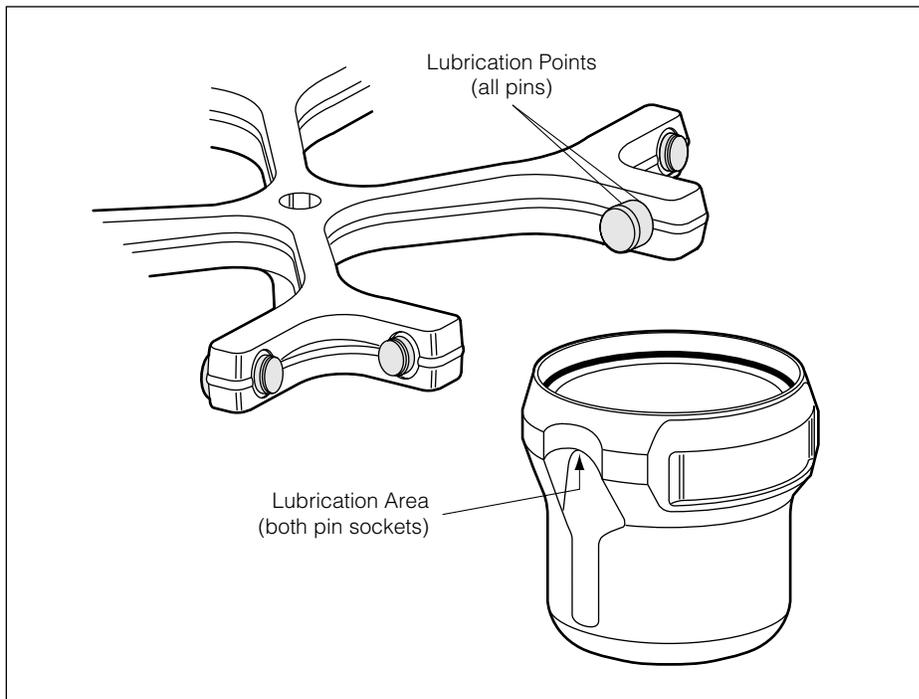

Figure 13. Lubricating Pivot Pin/Bucket Contact Areas
- Approximately once a week, and after cleaning and/or autoclaving, wipe the rotor pins and pin sockets (see Figure 13) with a paper towel, then coat with Paint On Graphite Lubricant (977212). Allow the lubricant to dry for at least 5 minutes before installing the rotor in a centrifuge.